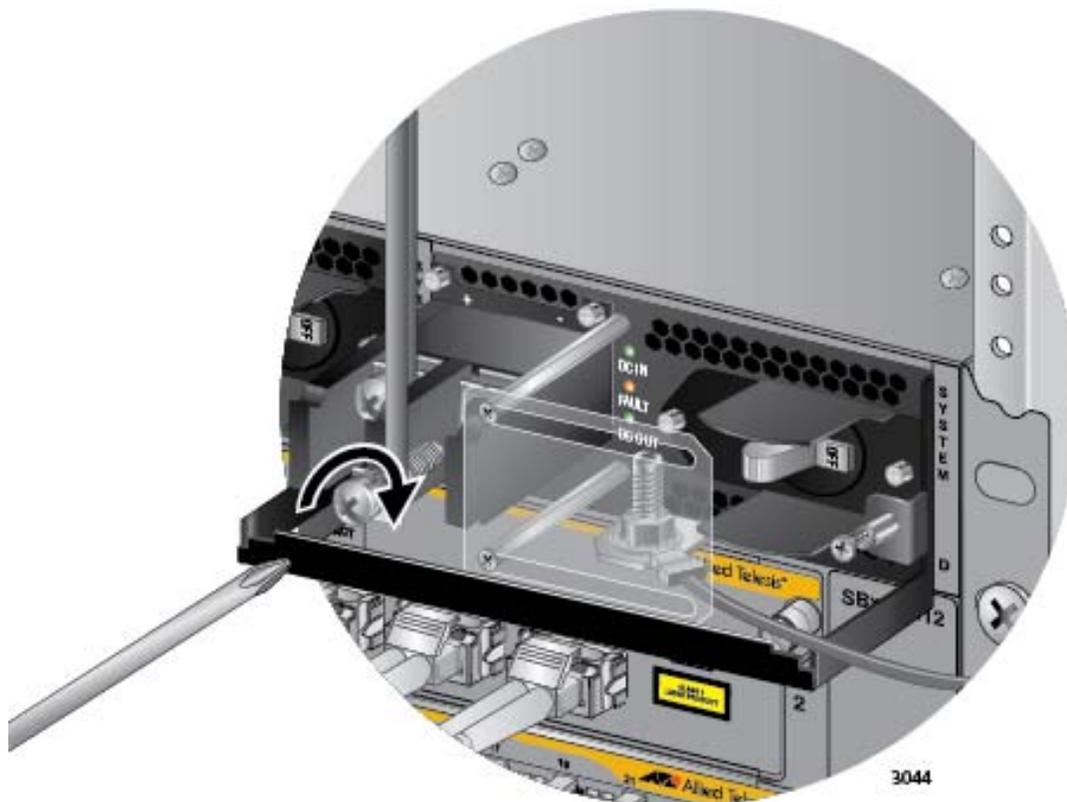

Figure 139. Connecting the Negative Lead Wire with Bare Wire
5. Wrap the negative lead wire clockwise around the remaining terminal screw and secure the screw and wire to the negative terminal connection on the terminal block with a #3 Phillips-head screwdriver, as shown in Figure 139 on page 206. The negative terminal is on the right.